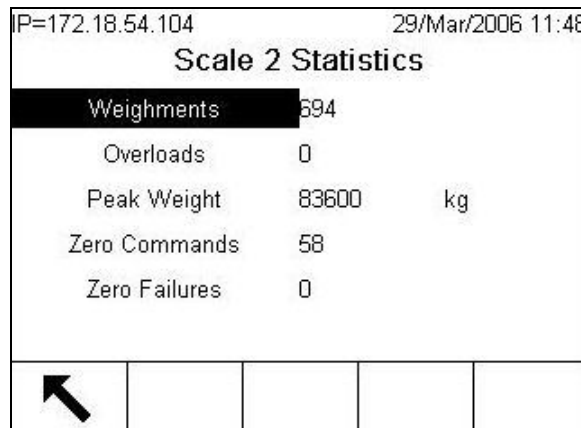

Figure 3-22: Scale Statistics Screen
- Statistics—Displays statistical information for each scale such as the total number of weighments, the number of scale overloads, the peak weight weighed on the scale, the total number of zero commands, and failed zero commands (Figure 3-22). These are very helpful when diagnosing scale problems. These statistics accumulate for each scale, and are saved until a master reset is performed. It is not considered likely that a master reset will be a frequent occurrence, so these statistics are effectively permanent.